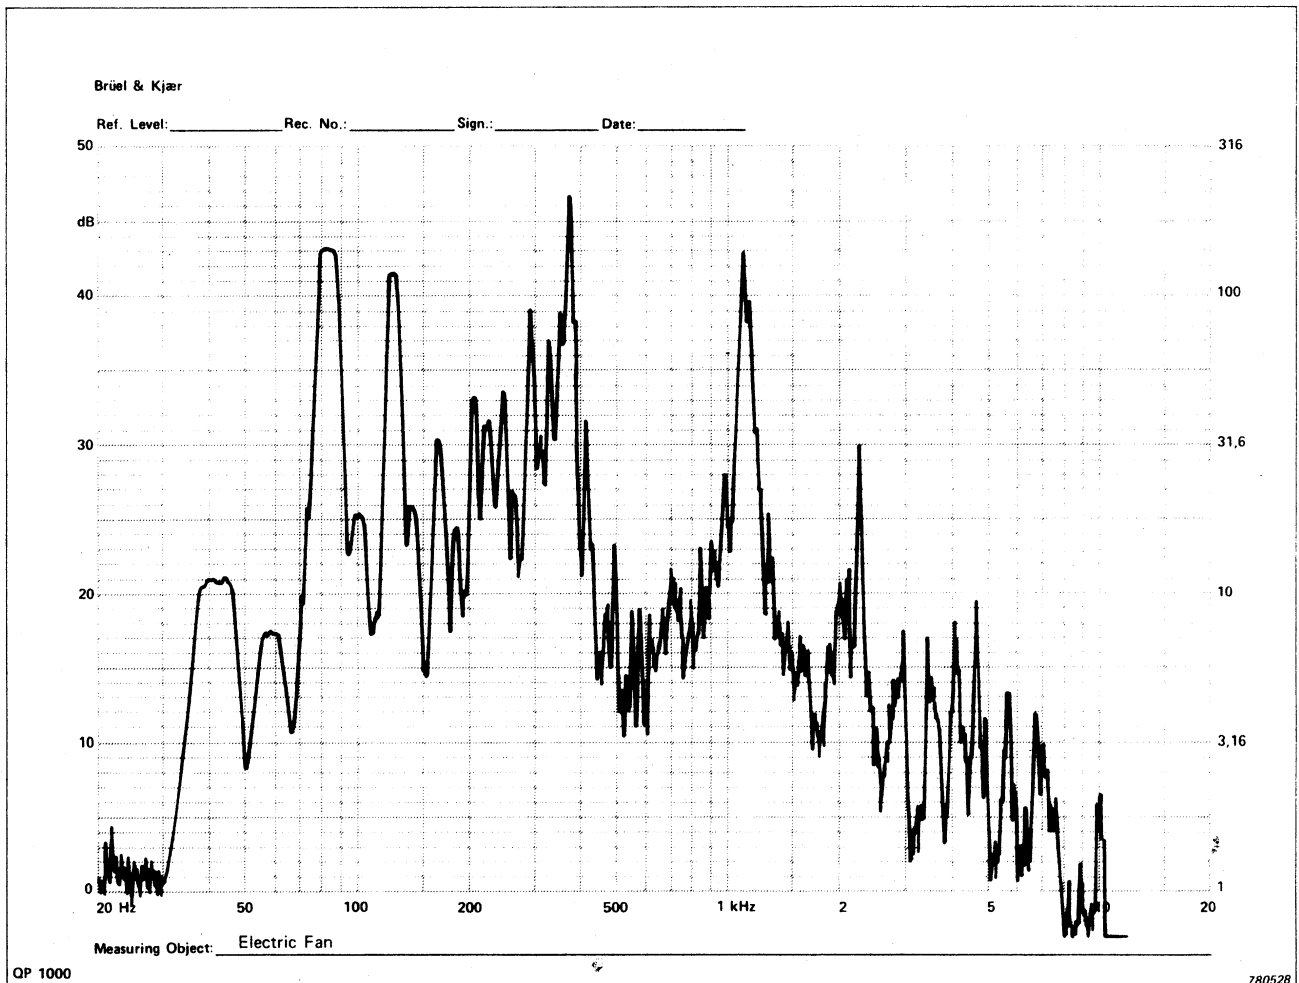

Fig. 4.3. Example of narrow band analysis recorded with a 3 decade frequency scale
For recording a response or analysis with "expanded" frequency scale, covering any part of the total sweep range of the Generator or Analyzer, exactly the same procedure as outlined in items 1 to 12 above, may be used. However, in this case the X-RANGE and X-GAIN controls must be used to increase the sensitivity of the X deflection of the Recorder. Examples of narrow band spectra, recorded with a 3 decade and "expanded" single decade frequency scale are shown in Figs.4.3 and 4.4 respectively.